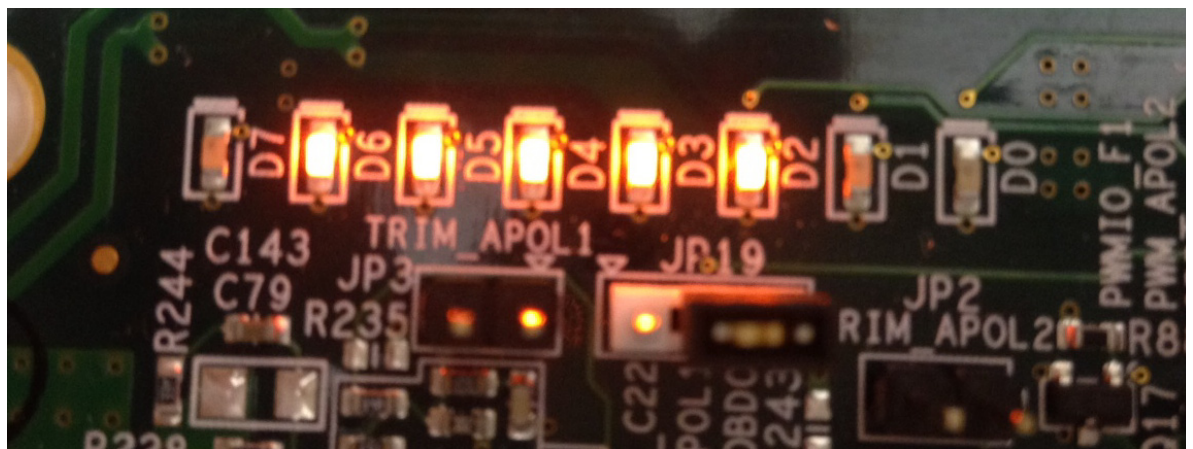

Figure 20 · LED1 and LED6 for Rails 1-4
7. What values are represented by the LED display (LED1 and LED6 on) for Rails 1-5 (Figure 20)?